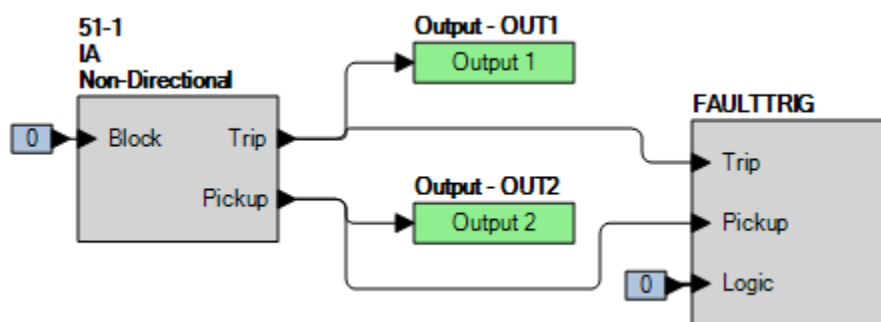

Figure 64-1. BESTlogicPlus Settings (Phase Mode)
Step 2: Use BESTCOMSP^{Plus} to configure the BESTlogicPlus programmable logic shown in Figure 64-1.
- Step 4: Prepare to monitor the 51-1 function operation. Operation can be verified by monitoring OUT2 (see Figure 64-1).